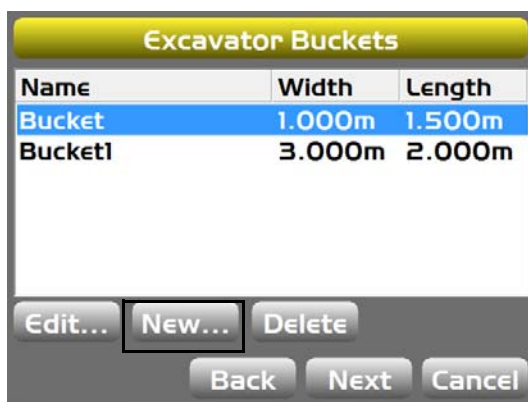

Figure 48: Create New Bucket
2. Tap **Next** until you reach the **Excavator Buckets** screen, and then tap **New** (Figure 48).